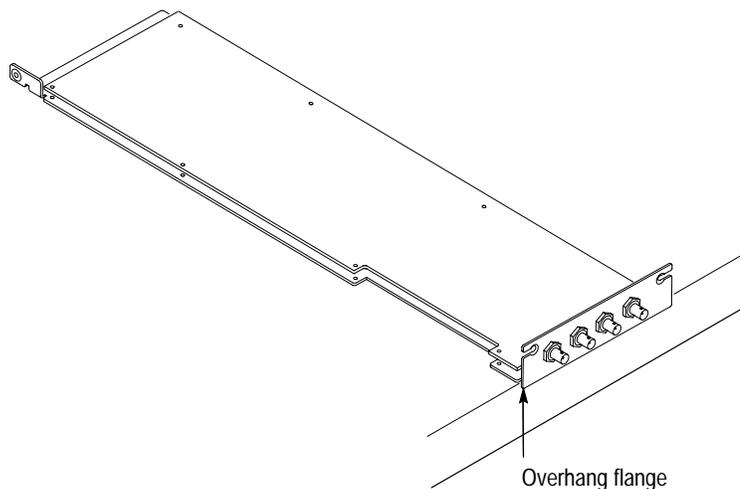

Figure 6–1: Position the shield flat on the work surface
7. Position the module so that the flange hangs over the edge of the work surface, and the shield is flat on the work surface. See Figure 6–1. Tighten the eight screws that attach the shield to the circuit board.